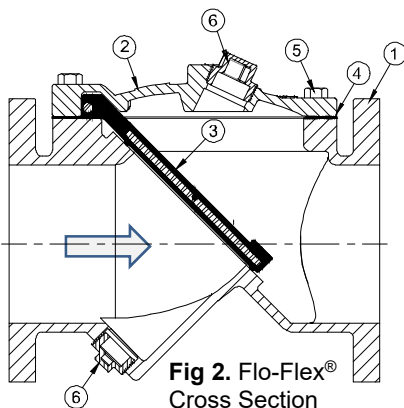

Fig 2. Flo-Flex® Cross Section
The Flomatic® Flo-Flex® Swing Check Valve is constructed of rugged Ductile Iron with a rubber encapsulated valve disc. The rubber coated valve disc is the only moving part assuring long life with minimal maintenance. The general details of construction are illustrated in Fig. 2. The body (1) is flanged for connection to the pipeline with an access cover (2). The disc (3) is retained by the cover.
<ol style="list-style-type: none"> <li>Relieve pressure and drain the pipeline. Refer to Figure 2 on page 2. Remove the cover bolts (5) on the top cover.</li> <li>Pry cover (2) loose and lift off valve body. 12" and larger valves have tapped holes in cover for lifting eyes.</li> <li>Remove disc (3) and inspect for cracks, tears or damage in rubber sealing surface.</li> <li>Clean and inspect parts. Replace worn parts as necessary and lubricate parts with FDA/NSF grease such as "Super Lube".</li> </ol>	<p>All parts must be cleaned. Gasket surfaces should be cleaned with a stiff wire brush in the direction of the serrations or machine marks. Worn parts, gaskets and seals should be replaced during reassembly.</p> <ol style="list-style-type: none"> <li>Lay disc (3) over seat with beaded seating surface directed down.</li> <li>Lay cover gasket (4) and cover (2) over bolt holes and disc hinge.</li> <li>Insert lubricated bolts (5) noting that the bolts in the hinge area are longer than the other cover bolts.</li> <li>Cover bolts should be tightened to the specifications shown in Table 2 (next page) during re-assembly.</li> </ol>